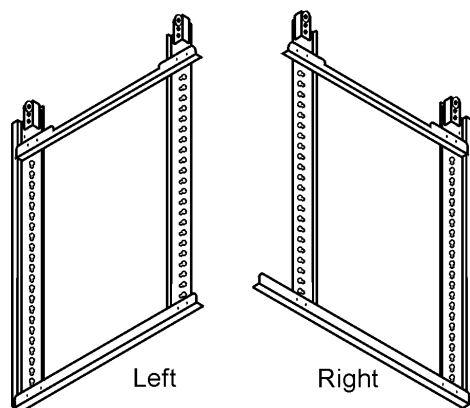

Figure 2-3
4. Place the left and right pilasters into the chamber with the vertical keyholes at the front (Figure 2-3). Allow the top of the right pilaster to lay diagonally across the chamber, resting upon the left pilaster. Pilasters are the assemblies that hold the shelves inside the incubator chamber.